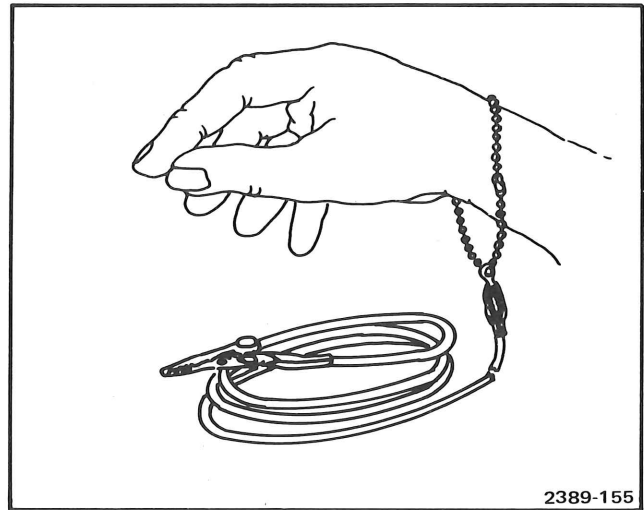

Figure 2. Wrist Strap for Static Protection.
- d. Discharge the static voltage from your body by wearing a grounded wrist strap when handling the ROM (Figure 2).